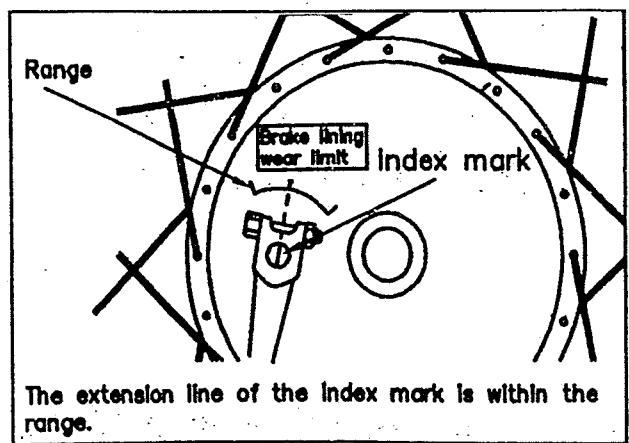

Fig 2.30
- If the index mark is beyond the range as shown in (fig 2.30) the brake shoe assembly should be replaced with a new one, as a set.